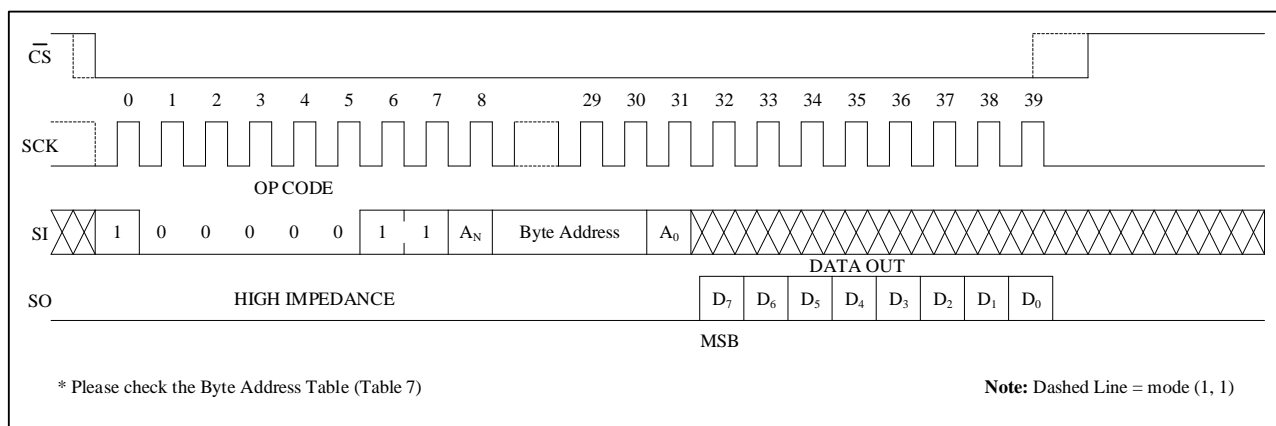

Figure 11
Read Identification Page: Reading the additional 256-byte Identification Page (IP) is achieved using the RDID instruction, according to timing shown in Figure 11. Address bit A10 must be 0, upper address bits are Don't Care, the lower address bits [A7:A0] address bits define the byte address inside the identification page. The byte address must not exceed the 256-byte page boundary.
Read Identification Page Lock Status: To read Identification Page Lock status, the host simply sends a RDLS command, according to timing shown in Figure 11. The address bit A10 must be 1, all other address bits are Don't Care. The Lock bit is the bit0 of the byte read on the SO pin. It is at "1" when the lock is active and at "0" when the lock is not active. The same date byte may be read at any time, including during an internal write cycle.